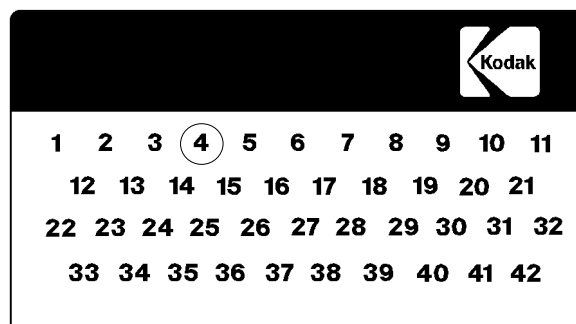

figure 3
- 17** Circle No. 4 on the MODIFICATION LABEL. See figure 3.